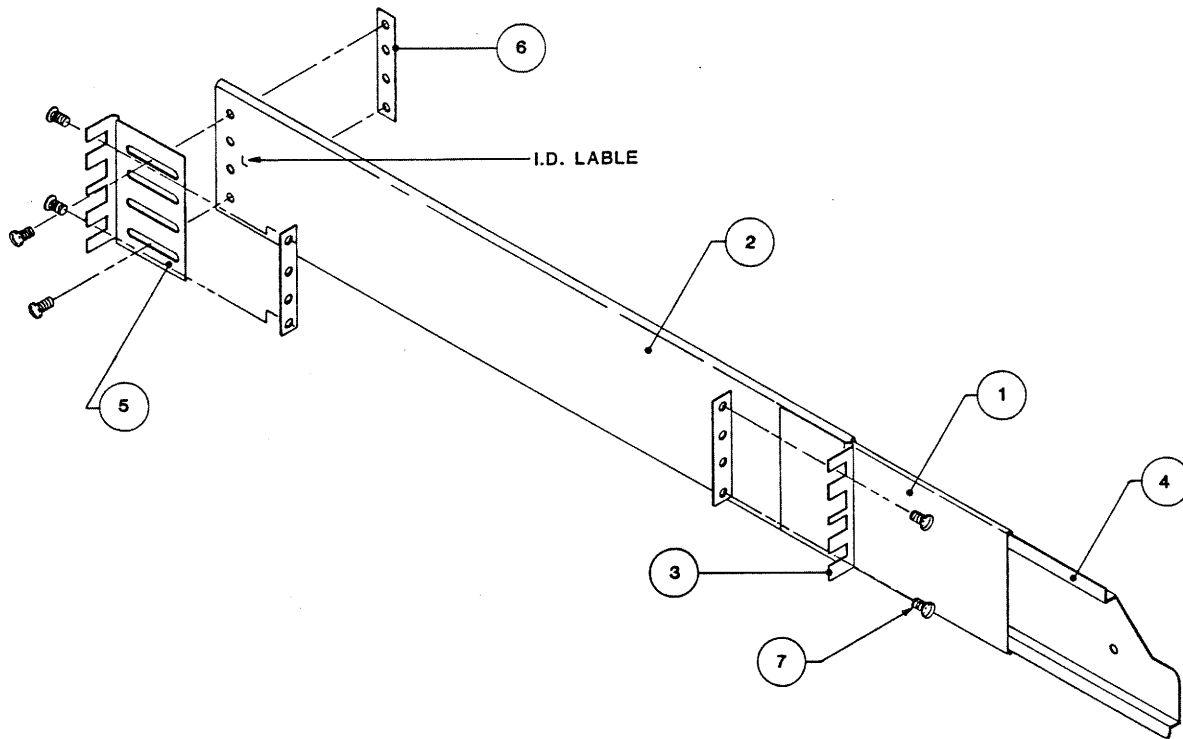

Figure 2-11. Track Subassembly Mounting
- A. Referring to Figure 2-11, Install the Right Track Assembly on the right side of the 19-inch Rack as follows:
1. Using the 10-32 Slotted Screws (7) and Nut Plates (6)* provided, loosely assemble an Adjustable Mounting Bracket (5) to the rear of the Right Track Assembly.
3. Aligning the bottom of the Fixed Mounting Bracket (3) at the 2-inch mark on the front of the 19-inch Rack, and using the 10-32 Screws (7) provided, mount the Fixed Mounting Bracket (3) to the front of the 19-inch Rack, and mount the Adjustable Mounting Bracket (5) (loosely attached to the rear of the Center Track) to corresponding holes in the the rear of the 19-inch Rack. Level the Track and tighten all Screws.